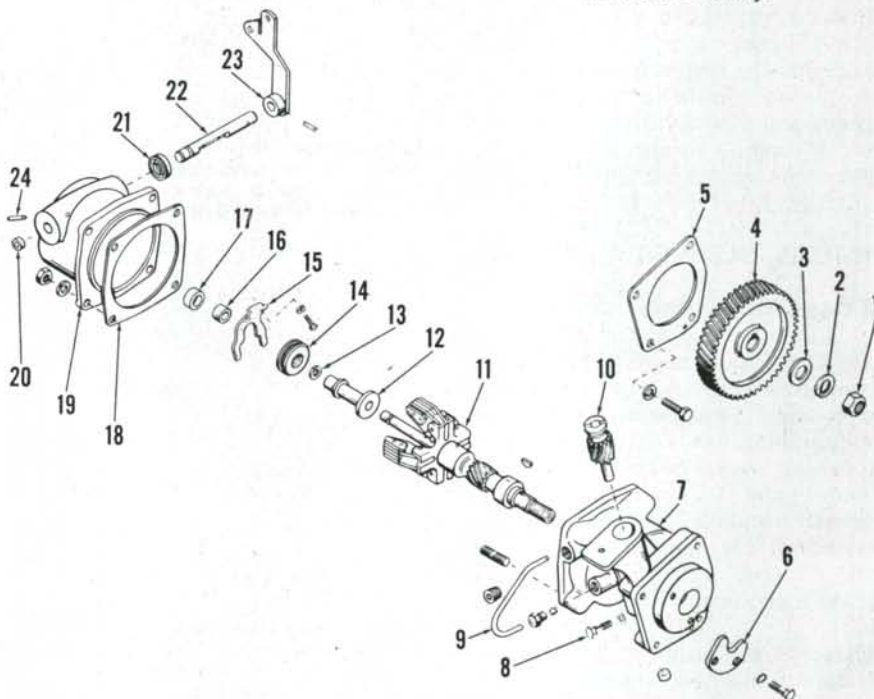

Fig. 31—Exploded view of governor and distributor drive assembly.
28. Refer to Fig. 31 for exploded view. To remove or disassemble the unit, first